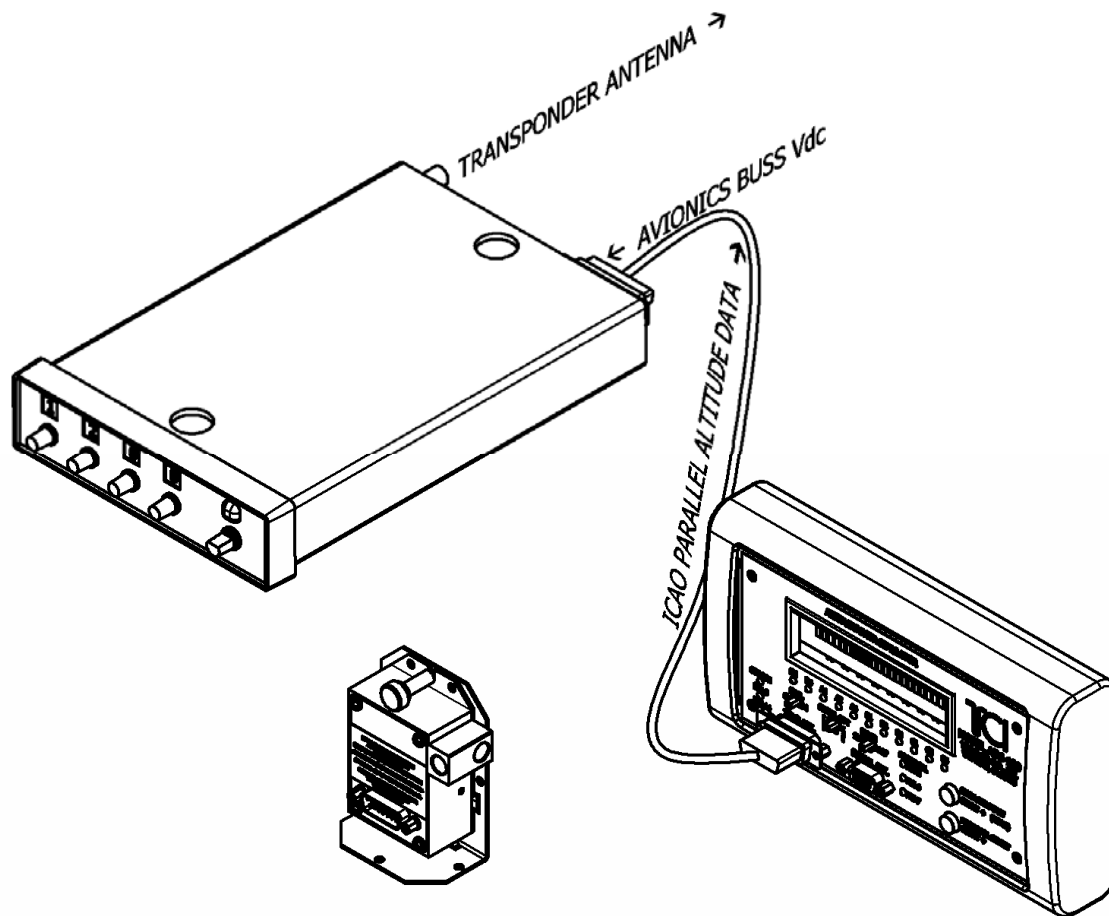

Figure 1
Step 1: With the **ADS-100** and avionics buss power **off**, simply substitute the ADS-100 for the altitude encoder, as shown in **Figure 1**. The altitude data output connector is wired identically to most Trans-Cal altitude reporting devices. The connector pin assignments are found in **Table IX**. Connect an acceptable ramp test set to observe the transponder output as per the manufacturer's instructions.